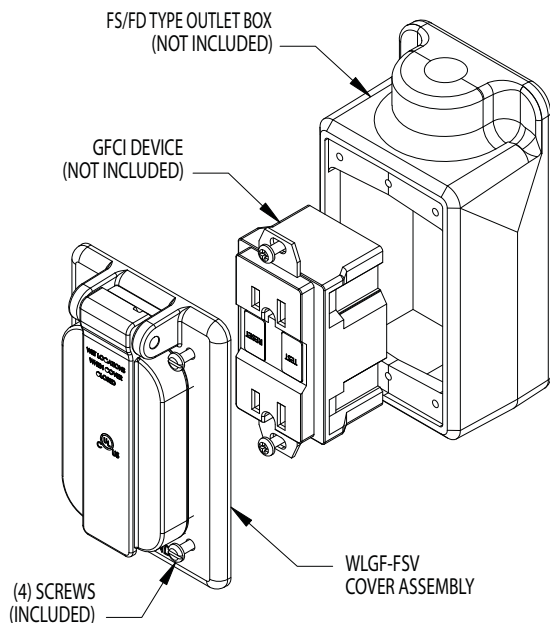
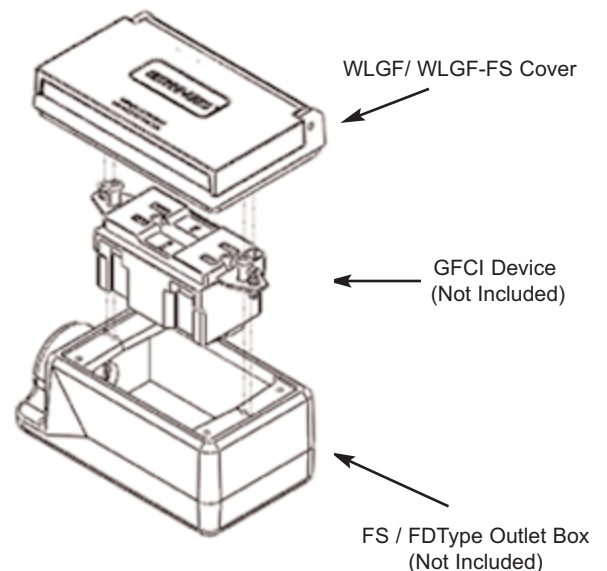

Figure 1 - Typical Assembly of Vertical Cover
Figure 2 - Typical Assembly of Horizontal Cover
This cover assembly is intended for areas subject to saturation from water or other liquids (see description for "Wet Location" and "Damp Location" in the National Electric Code). The cover must be mounted with the hinge at the top. Cover assembly includes: cover, door, gaskets, hinge spring, hinge pin, and mounting screws (see Fig. 2).
4. Position cover assembly on box (see Fig. 1 and Fig. 2) and secure cover to outlet box with (4) screws provided (2 screws for WLGF).